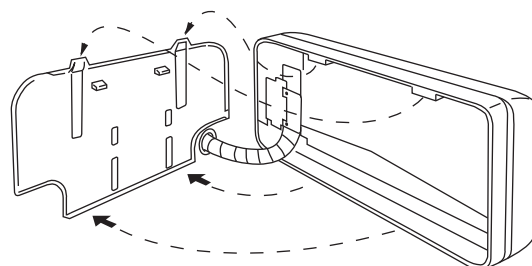
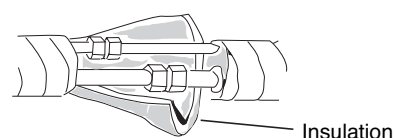

Fig. 36
Fig. 37
- (2) Push the wiring, refrigerant tubing, and drain hose through the hole in the wall. Adjust the indoor unit so it is securely seated on the rear panel. (Fig. 36)
- (3) Carefully bend the tubing (if necessary) to run along the wall in the direction of the outdoor unit and then tape as far as the fittings. (See Caution on page 15 in the outdoor unit installation manual.) The drain hose should come straight down the wall to a point where water runoff won't stain the wall.
- (4) Connect the refrigerant tubing to the outdoor unit. (After performing a leak test on the connecting part, insulate it with the tubing insulation. (Fig. 37)) Also, refer to Section 3-6. Tubing connections in the outdoor unit installation manual.
- (5) Assemble the refrigerant tubing, drain hose, and inter-unit wiring as shown in Fig. 37.